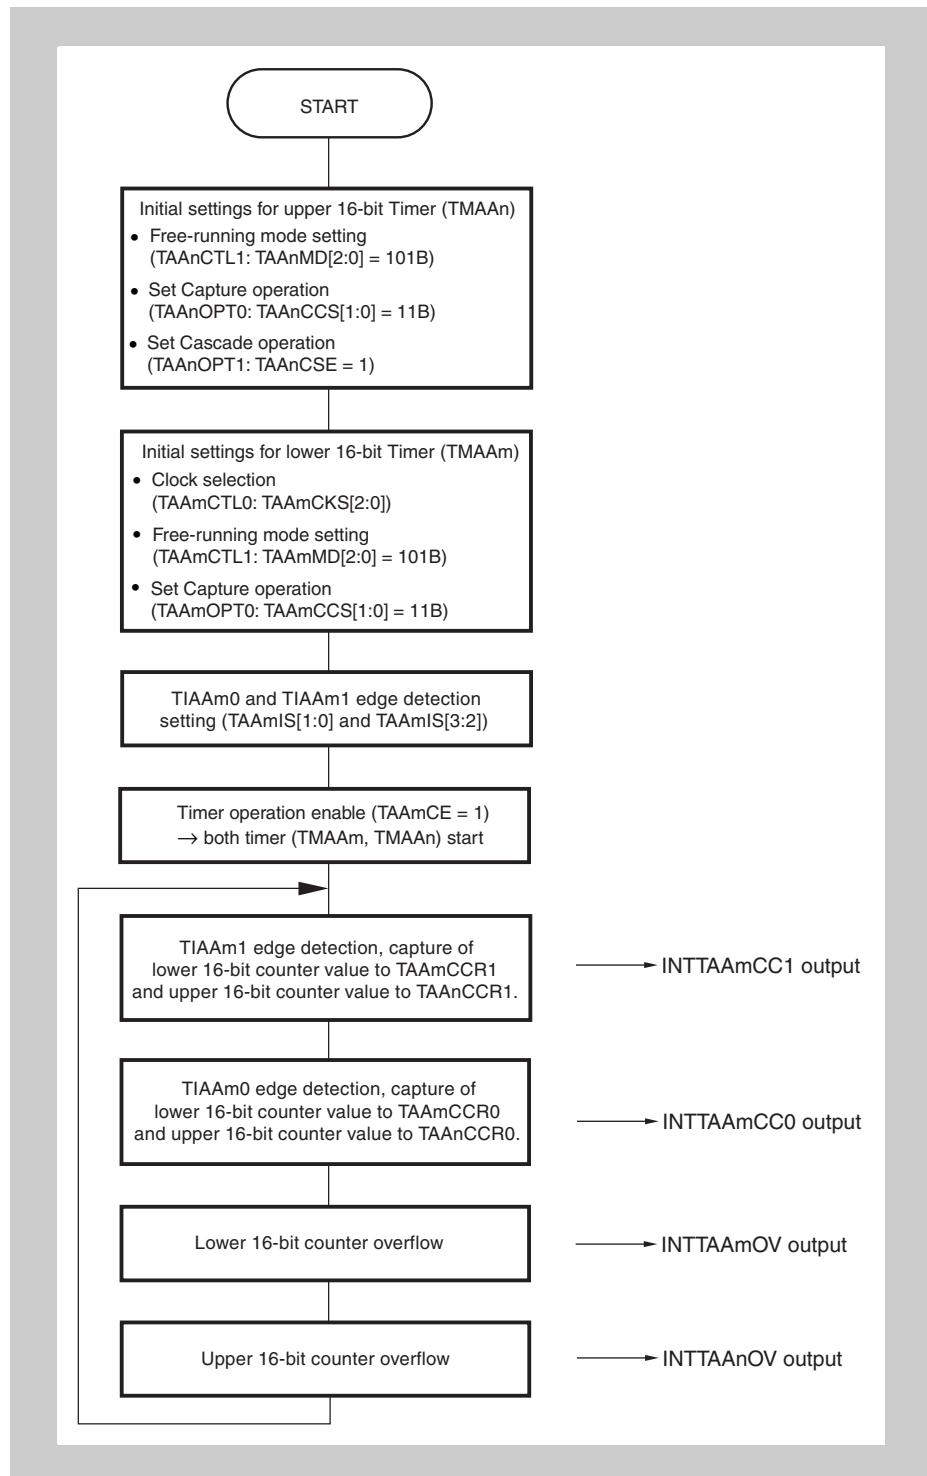

Figure 11-37 Basic Flow of 32-bit Capture Mode
*Figure 11-37* shows the recommended flow for setting up TAAm and TAAAn in cascade mode. As TAAm is used for general control, TAAAn is set up first and set in cascaded operation by setting the TAAAnCSE bit to 1. Then TAAm is initialized by selecting the proper clock setting and capture trigger input. Only TIAAm0 and TIAAm1 can be used as external capture trigger.